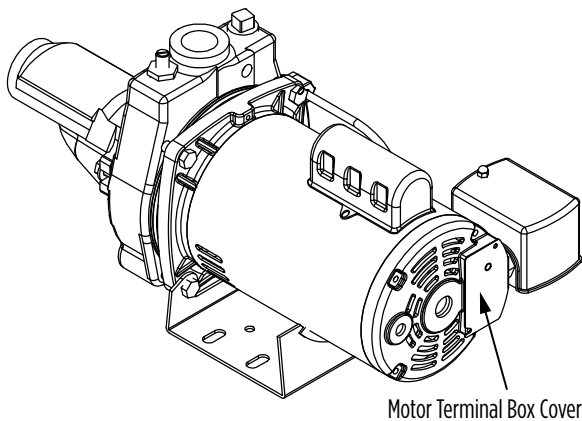

Fig. 2
2. Remove the cover from the motor terminal box (see Fig. 2).